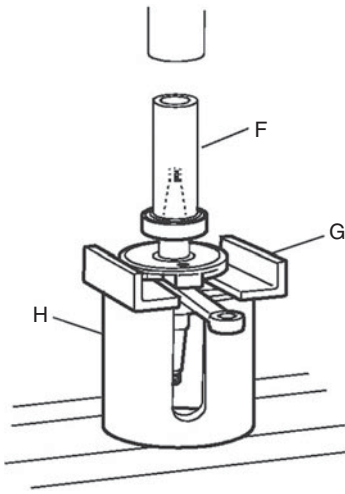

FIG. 6-31. *Bearing installation using Wacker Neuson tooling. Note that the nearside crankshaft web must be supported.*
The installation setup for Wacker Neuson engines can be used as a model for others (Fig. 6-31). The pusher tube (F) bears against the inner race and the crank support plate isolates the crankpin from bending forces. New bearings go on with their marked sides toward the pusher tube.